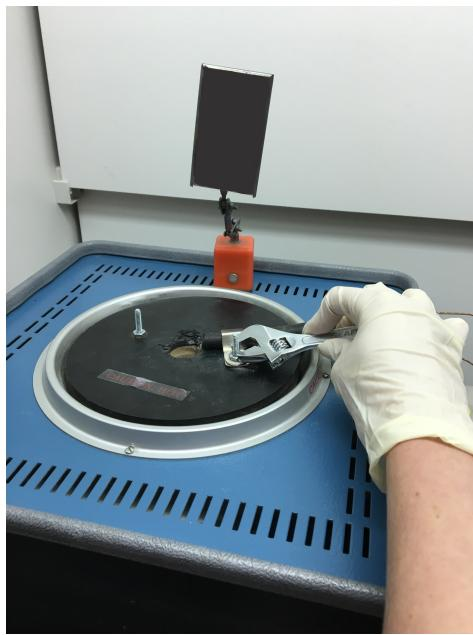

Figure 11: Position thermocouple 4 with the rubber hose and tighten
- * Tighten the nut on the bracket hand tight and then give a half turn with a wrench to secure the nut (See Figure 11)